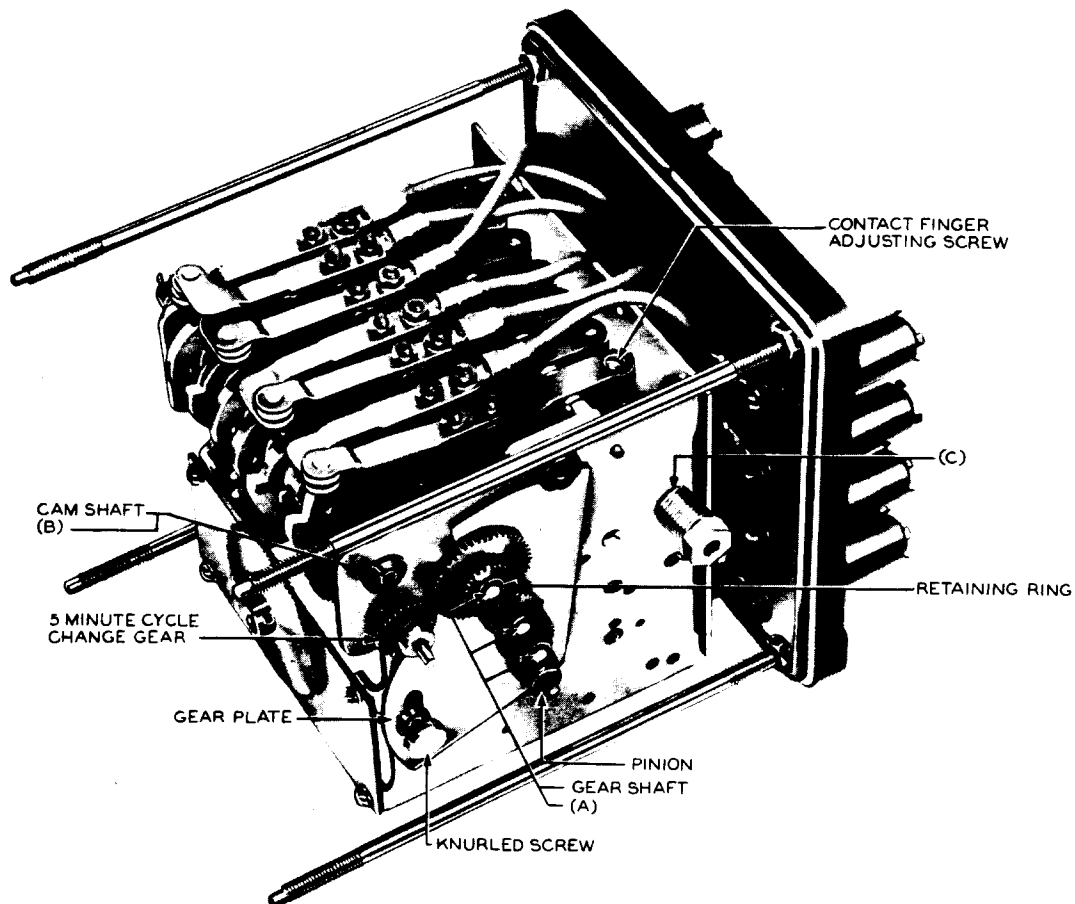

Fig. 2 — KS-15513 Time-delay Relay
- (1) Fig. 2(A) — Gear shaft at bearings (three points).
- (5) Fig. 2(B) — Camshaft at right bearing.
- (8) Fig. 2(C) — Lift plate at right bearing.